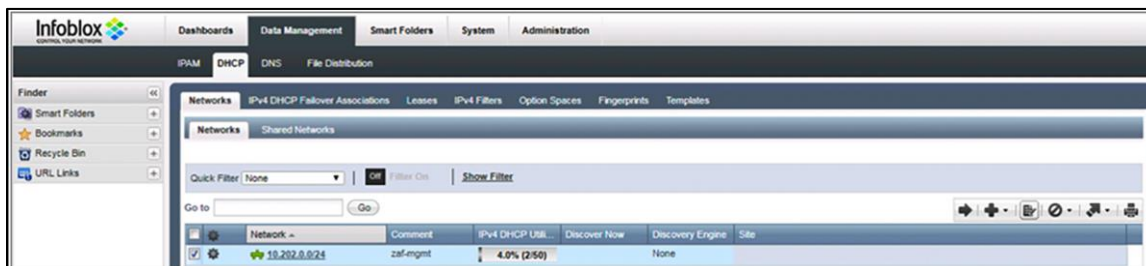

Figure 29.
1. For Infoblox, under Data Management > DHCP > Networks, choose the IPv4 network and click Edit (Figure 29).